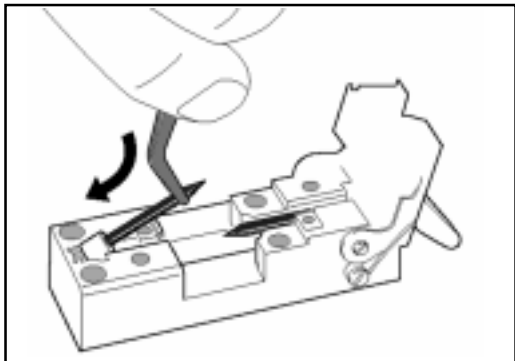

Fig. 95a - Inserting the new electrode at the correct angle
3. Mount the new electrodes correctly in their holders (figs. 95a and 95b)